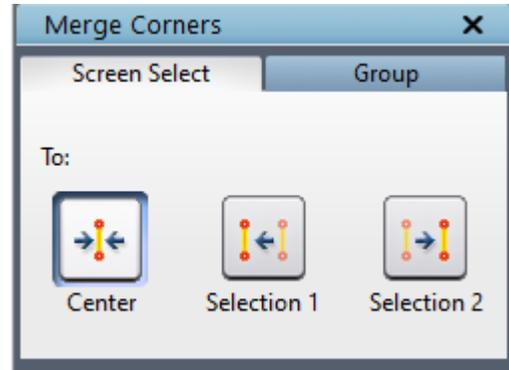

Figure 4.68: Screen select tab dialog box
**Screen select** tab provides you three options to position the selected corners after merge as shown in Figure 4.68. First is **To Center** option that will position the merged corners to the center of the input corners. Second is **To Selection 1** option that will position the merged corners to the first selected corners' position. Similarly **To Selection 2** will position the merged corners to the secondly selected corners'. After selecting the position where corners need to be placed after merging select the corners using mouse right click. A corner or sheet of corners can be selected. A single drag box will work if two separate sheets of corners are used but you need to drag two boxes separately when the sheets of corners are linked to each other.